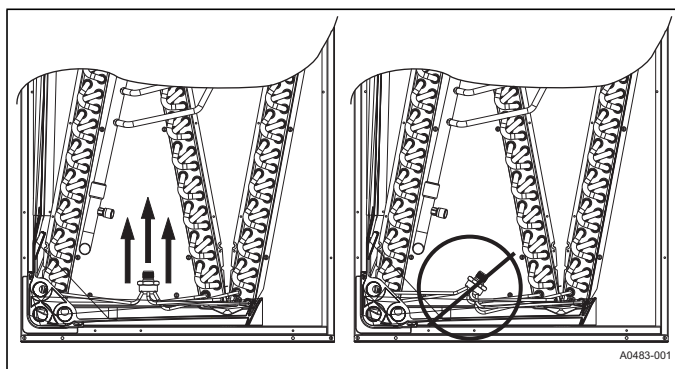

FIGURE 22: Recommended Distributor Adjustment
2. Distributor position must be adjusted to allow the preformed liquid line assembly to properly line up with the hole in the tubing access panel. Raise the distributor body approximately 2" toward the top of the coil or what would be the top of the coil if coil was in the upflow position. See Figure 22. Adjust as necessary.